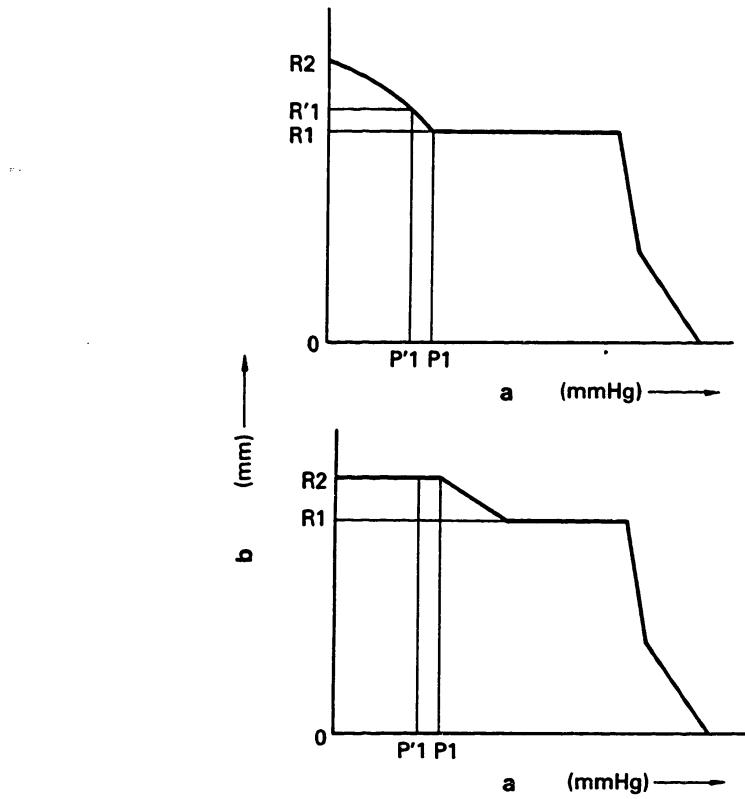

Fig. 84
-2. Maintain the pump speed indicated in the Service Data (usually 1,000 or 1,100 rpm) and reduce the pressure of the pneumatic governor's negative pressure chamber to  $P'1$  mmAq. (Fig. 84)
- After adjusting the aneroid compensator, measure the fuel injection quantity when the control rack is positioned at R2 mm as shown in Fig. 84, when the aneroid compensator is not operating. If the fuel injection quantity is not as specified, readjust the aneroid compensator.
5. Maintain the pump speed specified in the Service Data (usually 1,000 or 1,100 rpm) and reduce the pneumatic governor's negative pressure chamber pressure to P'1 mmAg (see Fig. 84).